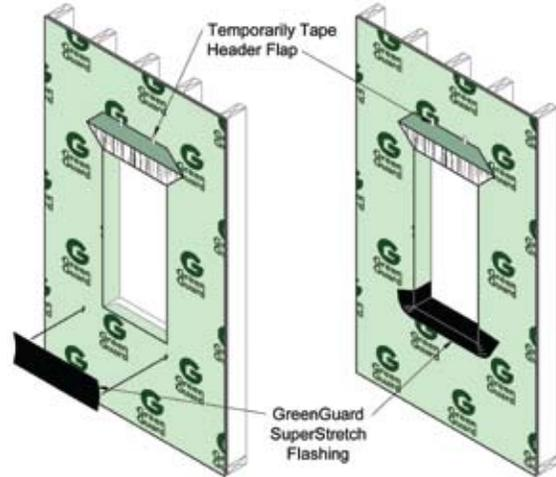

FIGURE 1C: INSTALLATION OF SILL FLASHING
2. *Optional Sill Flashing Method No. 1:* Cut a piece of GreenGuard SuperStretch Flashing that is at least 12 inches (304 mm) longer than the width of the rough opening. Remove the release paper and align the flashing so that it extends 2 inches (50 mm) onto the sill and up the inside jamb (see Figures 1C and 1D).